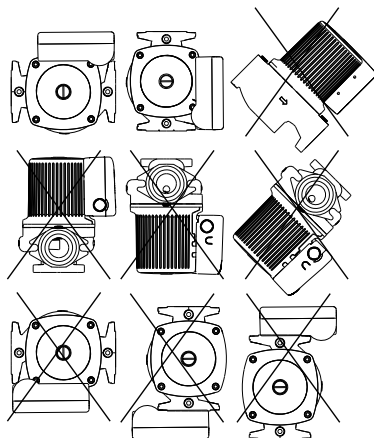
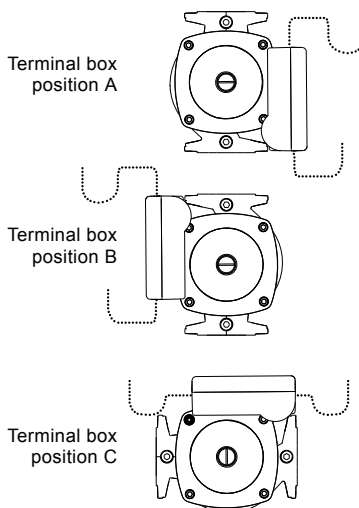

Fig. 1 Installation positions
Fig. 2 Acceptable terminal box positions
The arrows on the pump housing indicate the direction of water flow. The pump may be installed in vertical or horizontal piping, **but the motor shaft must always remain horizontal**, as shown in fig. 1.
There is not a drain hole directly below the terminal box; therefore the terminal box must be positioned in one of the positions shown in fig. 1 or fig. 2.
2. Carefully lift/slide the pump head out and away from the pump housing. Next rotate the pump head and locate the terminal box in the desired position. The terminal box can be rotated in steps of 90°. Review fig. 1 and fig. 2 for possible/missible positions.
10. Figure 2 shows acceptable terminal box positions along with recommended drip loops (dashed lines) in the electrical wiring harness based on entry point.
- An external "Drip Loop" is recommended in the electrical wiring harness; see fig. 2.